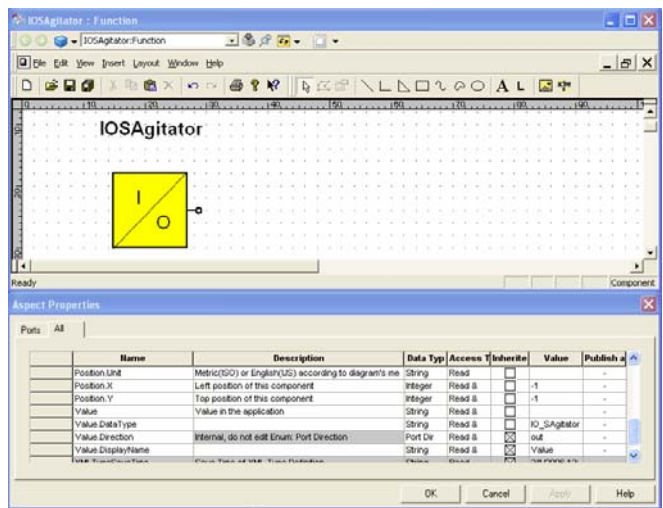

Figure 384. Graphical Symbol for IOSAgitator
- a. Right click on the copied Function Aspect and click **Component**, see Figure 384.
- g. Right click on the background of the drawing and click **Aspect Properties ...**, see Figure 384.